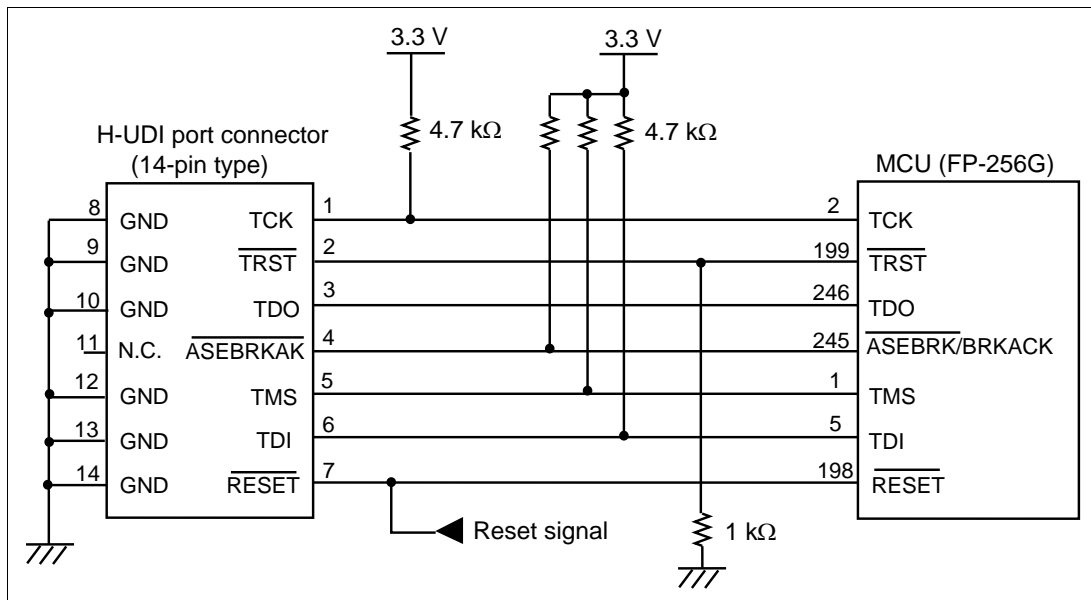

**Figure 4.1 Recommended Circuit for Connection between the H-UDI Port Connector and the MCU (36-pin Type)**
Figure 4.1 shows an example of the recommended connection between the H-UDI port connector (36 pins) and the MCU.
5. The resistance values shown in figure 4.1 are for reference.